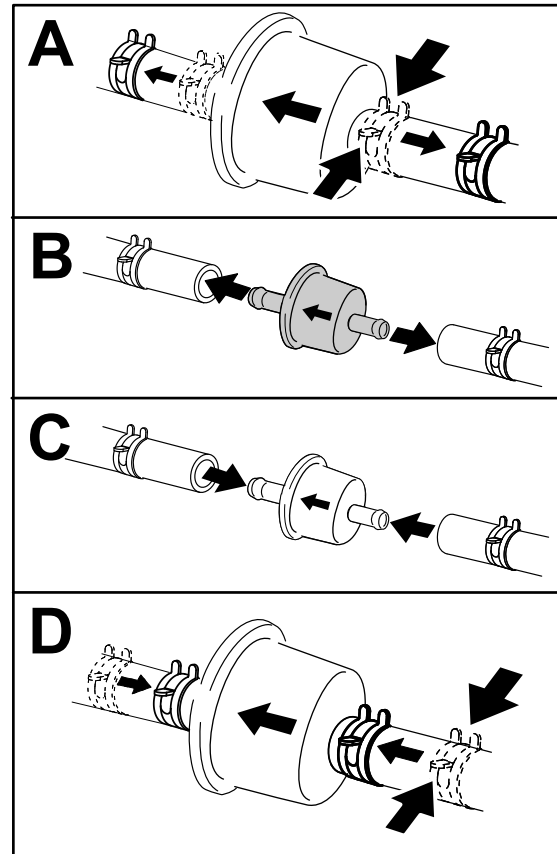

Figure 42
3. Replace the filter (Figure 42).